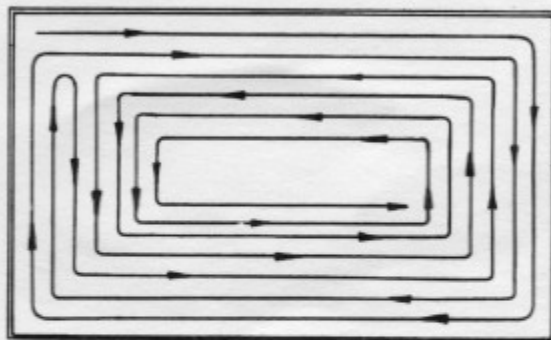

Figure 40. Mowing Pattern
- On side discharge mower only, turn to the right when beginning to mow large open areas to discharge clippings away from borders such as sidewalks, fences, driveways, etc. After making two or three passes this way, mow in the opposite direction turning to the left to finish. See Figure 40.